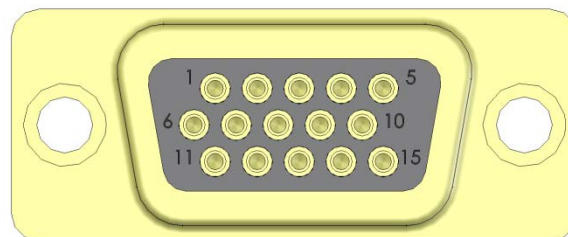

FIGURE 2.2
Construct the cable harness with regards to the instructions below and using the Connector Pinout of Table 2.1 and Figure 2.2 and Configuration Module Assembly of Figure 2.3. Installers should follow industry-accepted practices regarding aircraft wiring and applicable regulatory and advisory requirements and guidance.
- 3) Insert the pins of the cable harness into the rear of the 15-pin D-Sub connector (Item 4) per Table 2.1 and Figure 2.2 using an appropriate pin insertion tool.